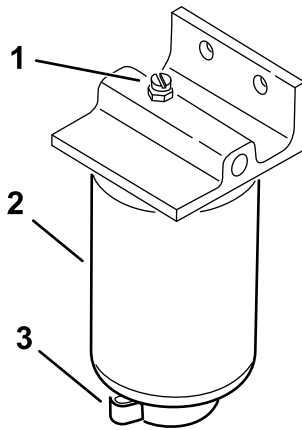

Figure 36
4. Open the filter drain plug and breather valve (Figure 36).